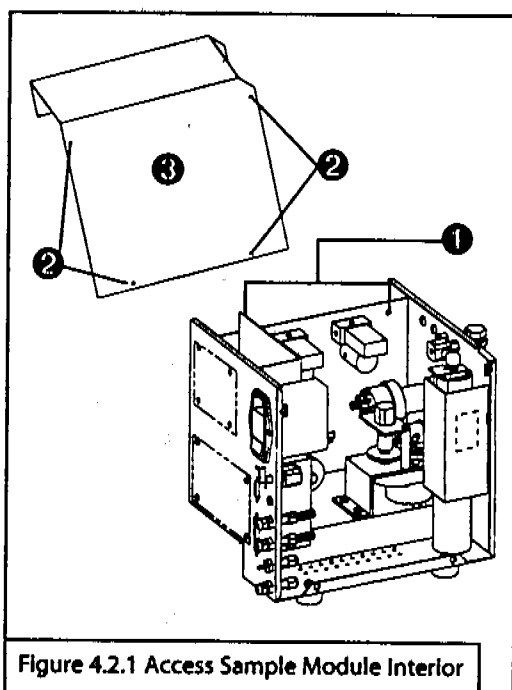

Figure 4.2.1 Access Sample Module Interior
3. Remove the two thumbscrews from the right side panel (1, Figure 4.2.1) of the sample module and set aside.